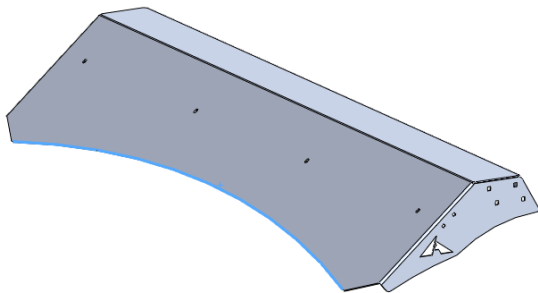

Figure 6: Rubber Trim Installation on Air Dam
4. Install rubber trim along front edge of air dam (Figure 6).